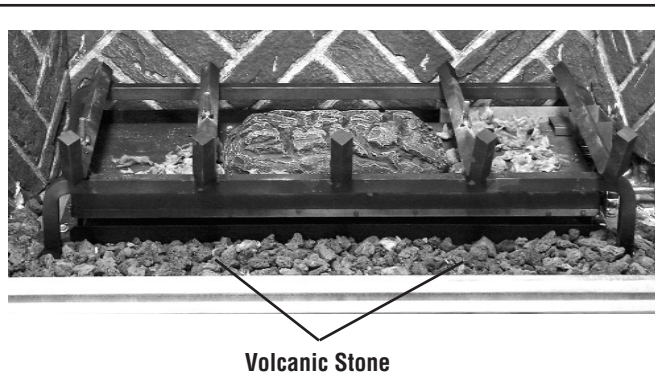

Figure 63—Volcanic Stone Placement
- If logs are not installed according to the log installation instructions, flame impingement and improper combustion could occur and result in soot and/or excessive production of carbon monoxide (CO), a colorless, odorless, toxic gas.
2. Place volcanic stone around the burner, as shown in **Figure 63**.